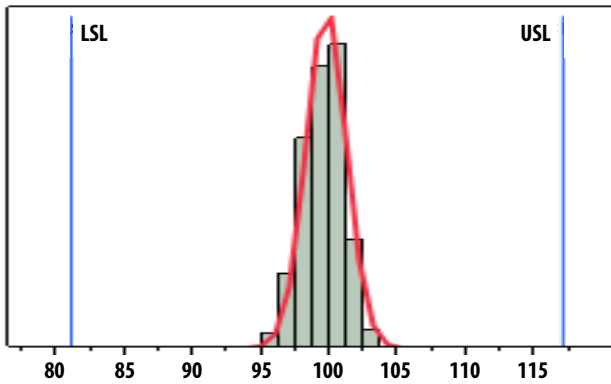

Figure 1. Idd, LSL = 81 mA, nominal = 100 mA, USL = 117 mA
RF performance at  $T_A = 25^\circ\text{C}$ ,  $V_{dd} = 5\text{ V}$ , 1980 MHz, measured on demo board in Figure 1 with component listed in Table 1 for DC bypass.
1. Measurements at 1980 MHz obtained using demo board described in Figure 1.